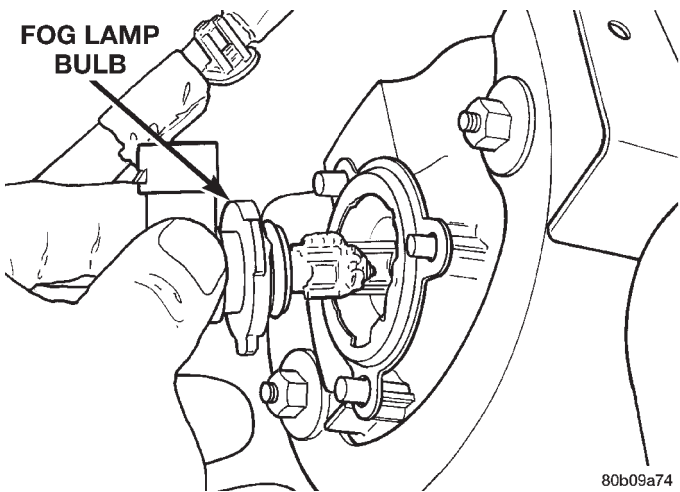
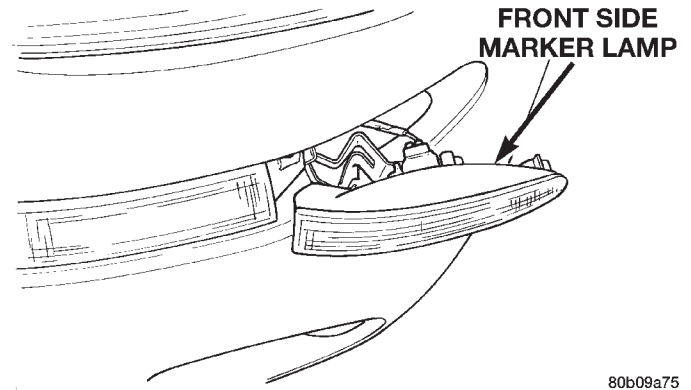
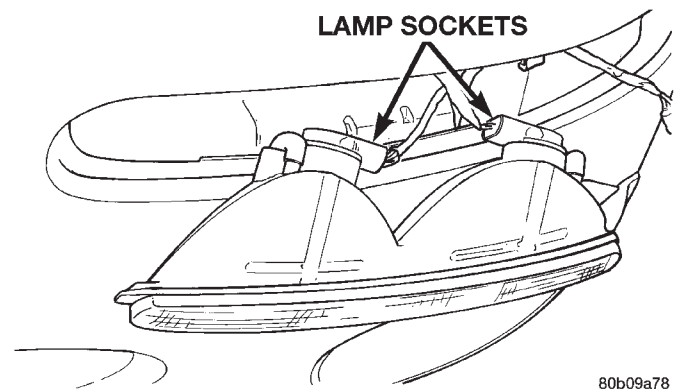

Fig. 6 Fog Lamp Bulb – T&C
Fig. 7 Front Side Marker Lamp Bulb – T&C
Fig. 8 Front Side Marker Lamp Sockets
(1) Remove both battery cables, negative cable first. Battery top, cables and posts should be clean. If green dot is not visible in indicator, charge the battery. Refer to Battery Charging Procedures.
(2) Connect a Volt/Ammeter/Load tester to the battery posts (Fig. 6). Rotate the load control knob of the Carbon pile rheostat to apply a 300 amp load. Apply this load for 15 seconds to remove the surface charge from the battery, and return the control knob to off (Fig. 7).
- (1) Reach behind fascia and remove bulb by rotating counterclockwise (Fig. 6).
- (2) Rotate lamp bulb counterclockwise to disengage bulb.
- (3) Disconnect the wire connector from fog lamp bulb base.
- (4) Replace bulb.
- (1) Remove screw attaching side marker lamp to fascia.
- (2) Remove housing by pulling rearward and away from fascia (Fig. 7).
- (3) Rotate lamp socket counterclockwise one quarter turn.
- (4) Pull bulb socket from the rear of lamp (Fig. 8).
- (5) Pull bulb from socket.